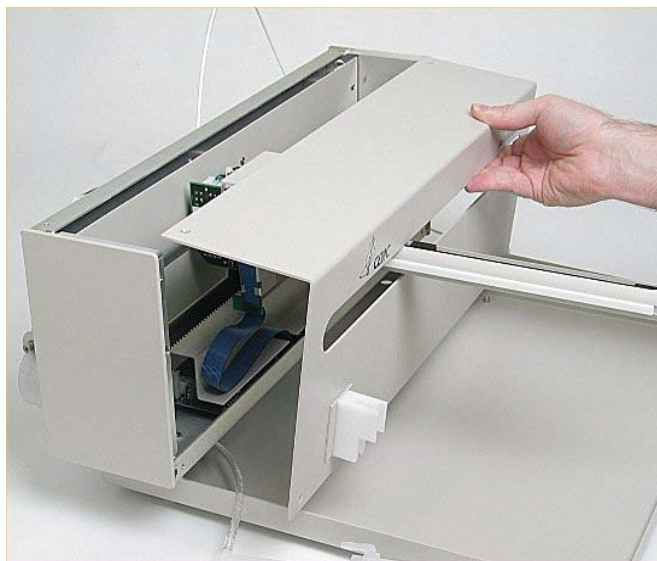
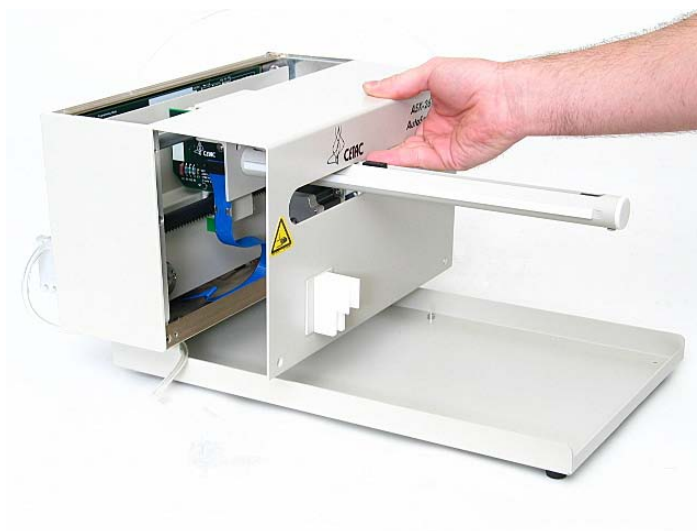

Figure 1-14 View of ASX-520 Autosampler with the front cover being removed.
Figure 1-15 View of ASX-260 Autosampler with the front cover being removed.
7. The front cover is removed by lifting it slightly and pulling forward (Figure 1-14/Figure 1-15).